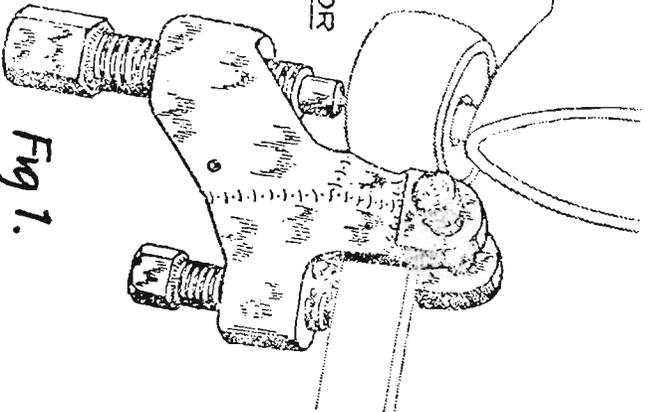

Fig. 1.
- Fig. 1 Shows ball extractor 1851.T. in position.
7. Use extractor tool 1851.T. as in Fig. 1, or alternative tool as in Fig. 2, by tightening the long bolt that fits onto the swivel pin, then give it a sharp blow with a hammer to break the taper.